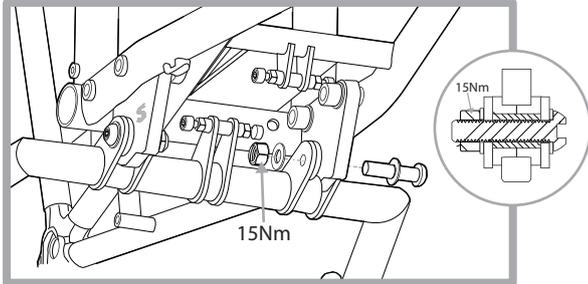

Figure 7
- Align kickstand frame with mounting plates on frame and assemble pivot hardware (M8x1.25-35L bolt, M8 washers, M8 lock nut). Before assembling hardware into the frame, apply grease to the pivot hardware threads. Hold bolt (using a 6mm hex wrench) and tighten lock nut to 15Nm (using a 13mm wrench). **NOTE:** Pivot sleeve prevents joint from overtightening. Check for free motion of kickstand AFTER assembly (Figure 7).